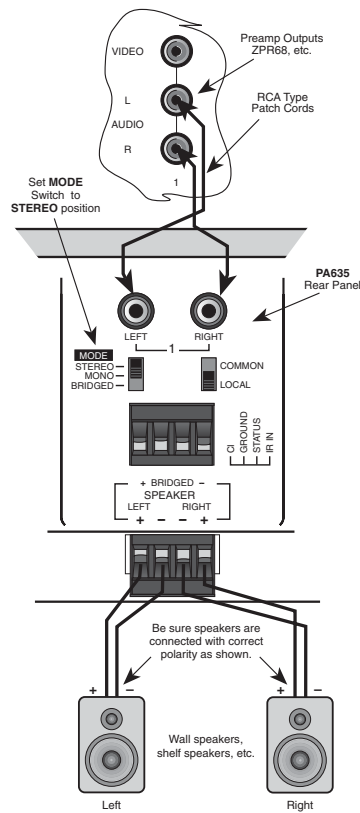

Figure 6 – Stereo Mode Connections
1. Using good quality RCA-type patch cables, connect the L and R OUTPUT jacks of the driving preamp to the LEFT and RIGHT input jacks on the PA635. Do this for each amplifier pair. Refer to Fig. 6.
5. Be sure to observe correct polarity by connecting the "+" and "-" terminal from each channel on the PA635 to the corresponding "+" and "-" terminals on each speaker. This will ensure correct "phasing". See Fig. 6 and Speaker Phasing, following. Since the connectors are removable, you may unplug them for ease of lead assembly.
- a) If the "+" (positive) and "-" (negative) terminals on your speakers are correctly marked, and visible, and you have wired the system as shown in Figs. 6 and 7, then the system will be "in phase". No further action is required. Most manufacturers identify the positive terminal with a red binding post, a "+" sign, or a red dot.
- When connecting speakers for each room, be sure to observe correct polarities as shown in Fig. 6.